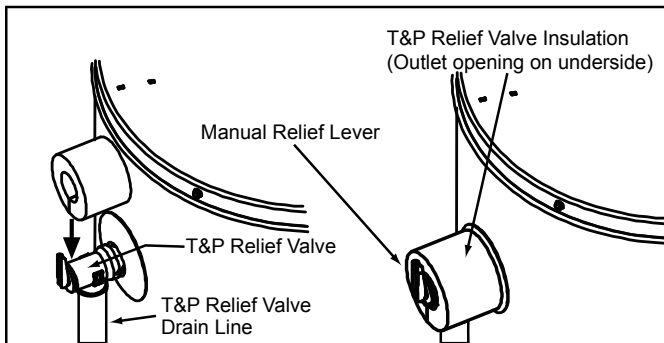

Figure 25
Locate the temperature and pressure relief valve on the water heater (also known as a T&P relief valve). See Figure 25.
2. Spread the slit open and fit the insulation over the T&P relief valve. See Figure 25. Apply gentle pressure to the insulation to ensure that it is fully seated on the T&P Relief Valve. Once seated, secure the insulation with duct tape, electrical tape, or equivalent. **IMPORTANT:** The insulation and tape must not block the discharge opening or hinder access to the manual relief lever (Figure 25). Ensure a discharge pipe is installed into the T&P valve discharge opening per the instructions in this manual.